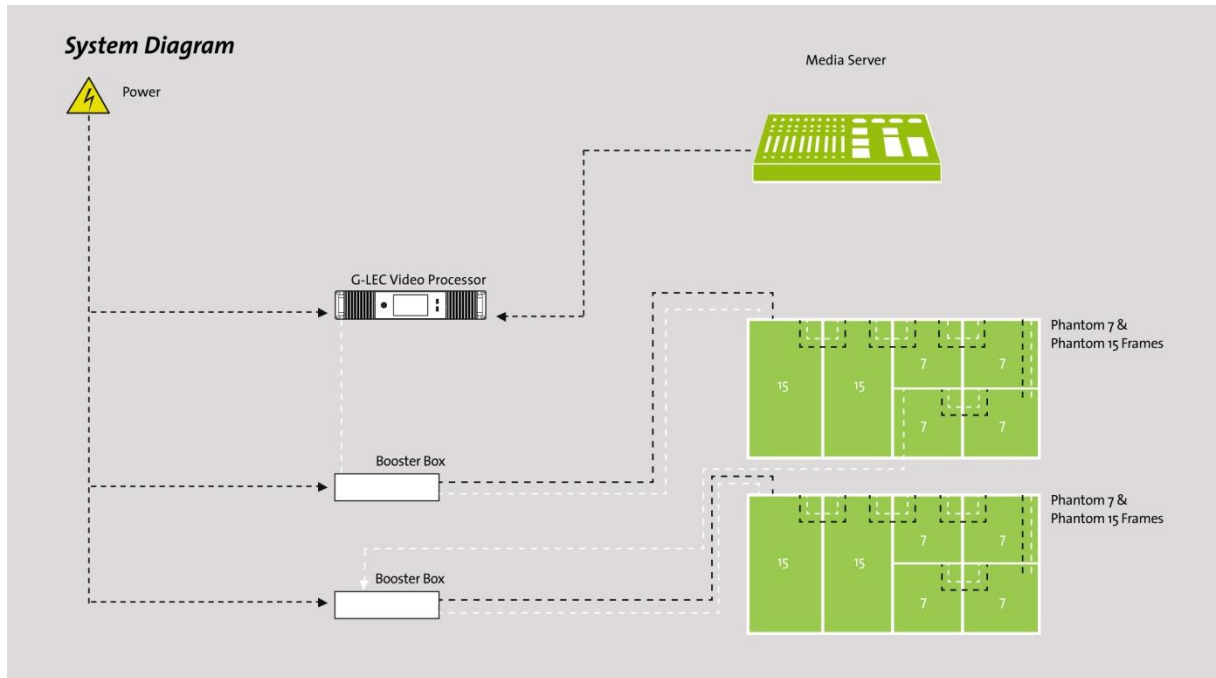

Fig. 3
1. Fig. 3 shows a typical system layout.
2. Refer to Fig. 3 to locate the following connectors: